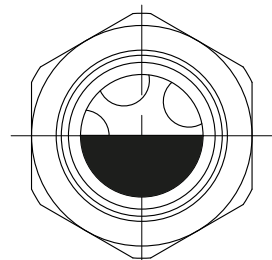

Figure 13. Oil sight glass
• Bearings of the pumps which are lubricated by liquid oil are shipped oilless and this point is specified by a warning label. The pump bearings should be filled with liquid oil up to the indication level (see Figure 13).